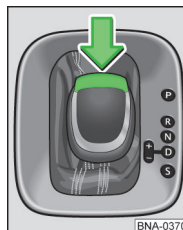

Fig. 65
▶ Press the brake pedal and lock button at the same time in the direction of the arrow » fig. 65.